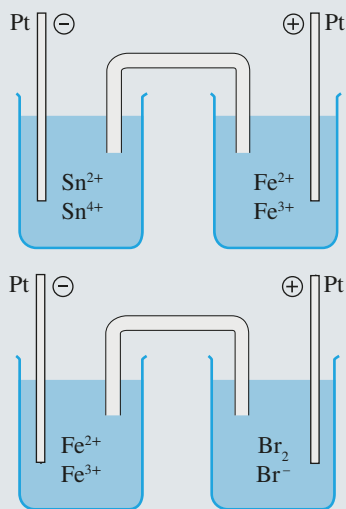

FIGURE 9.6.1 Two galvanic cells
- 7 The two galvanic cells shown in Figure 9.6.1 were constructed under standard conditions.